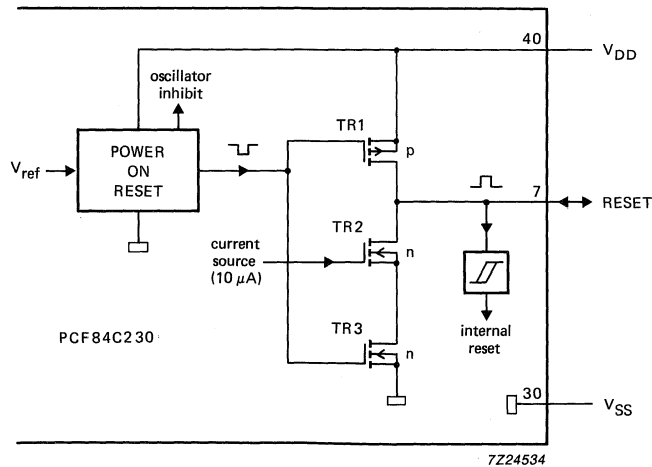

Fig.19 Power-on reset configuration.
**Power-on reset and low voltage detection** (see Fig.19)
1. If  $V_{DD}$  can be switched with a fast rise time i.e.  $V_{DD}$  reaches its minimum operating value (corresponding to the selected oscillator frequency) before the RESET signal ( $t_{d}$ ) has finished, then no extra components are required (see Fig.19 and 20). Note that the first instruction is executed after the oscillator start-up time plus 1866 clock periods have elapsed.